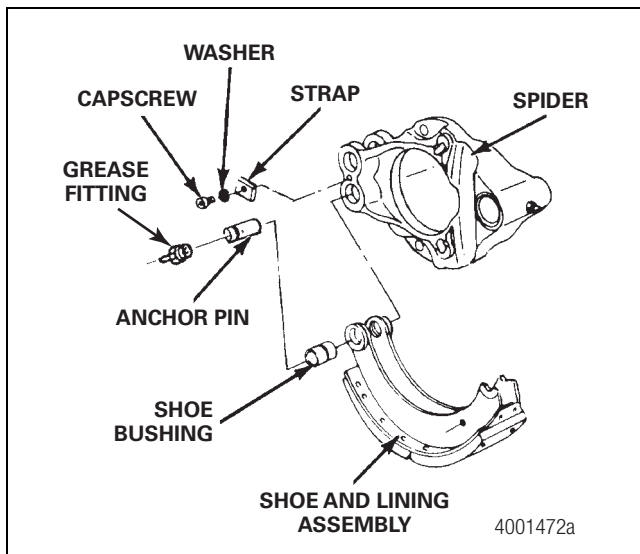

Figure 5.27
- A. **For a straight anchor pin with a strap**, place the anchor pin through the shoes and into the shoe side of the spider. The slot in the pin must be toward the bore for the strap fastener in the spider. Figure 5.27.